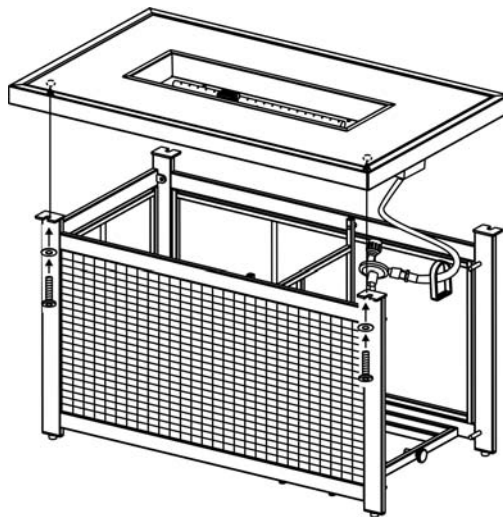

Figure 6
5. With the help of another person, carefully place the table top onto the firepit base. After making any necessary adjustments to the alignment of the table top and the assembled base, use four 1/4"x20 mm bolts and Ø20xØ6.5x2.0 mm washers as shown in Figure 6. Guide the bolts through the holes in the base brackets, into the pre drilled holes in the table top. **Do not tighten completely.**